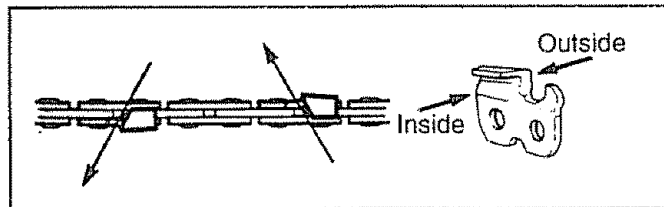

Figure 34
- Sharpen cutters on one side of the chain first. File from the inside of each cutter to the outside. Then turn your saw around and repeat the process for the other side of the chain. See Figure 34.